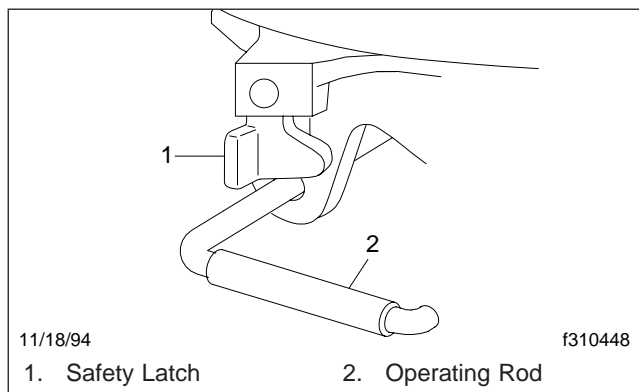

Fig. 10.14, Simplex Kingpin Locking Mechanism, Safety Latch (locked position)
During coupling, the kingpin contacts and rotates the jaw into the locked position. This action automatically moves the operating rod into the locked position. This securely locks the jaw around the kingpin. In the locked position the safety latch swings freely over the operating rod. See Fig. 10.14.
7. Make a visual check (even if equipped with the Touchloc air-operated system) for positive kingpin lockup. The trailer bed plate must be flush on the fifth wheel plate surface. When positive lockup has occurred, the fifth wheel operating rod will have moved inward to the locked position, and the safety latch will swing freely over the operating rod. See **Fig. 10.14**.